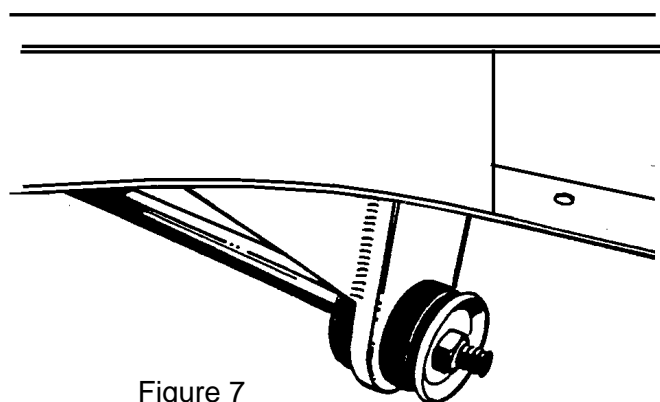

Figure 7
10. Install the strut rod onto the control arm. Now, assemble onto the strut rod the large rubber bushings, including the cupped washers, and the strut mount plate. Be certain to fully tighten the nut on the strut rod to its' fully seated position. See Figure 7. There are two rubber bushing sets available; the standard replacement and the improved set. We recommend the improved set, as it provides more stability to the front suspension. The Pinto and Mustang strut rods are different lengths. We recommend the use of Pinto strut rods, as they are bent less than the Mustang strut rods. You will find that with either strut rod the strut rod plate does not line up with the bottom of the frame rail. The strut rod must be heated in the elbow area and bent outward. The rod is bent outward until the strut mounting plate lines up to the frame rail. You will find that because the Pinto strut rod is initially bent less and requires much less bending. The strut rod will act as an alignment fixture while you tack weld the mount plate in place, then tack weld the gusset in place. Remove the strut rod, bushings, and arm, and finish welding to the frame and each other.